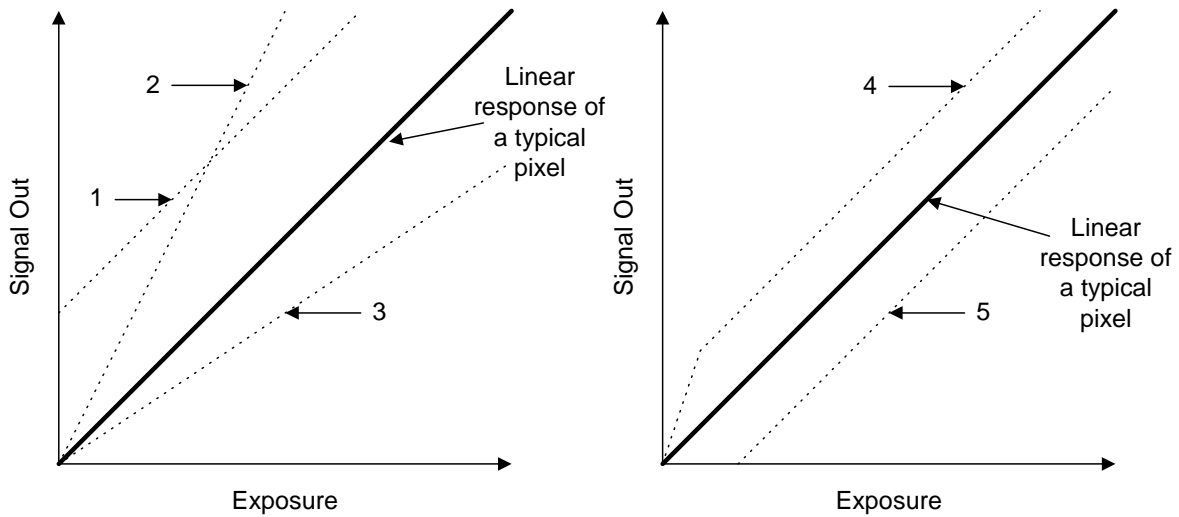

Figure 10: Defect Pixel Classification
13. Pixels whose response deviates from the average pixel response by the specified threshold, (4.5mV for chroma, 5.5mV for luma), when operating in exposure control mode with an integration time that is 50% of the line time. See lines 4 and 5 in Figure 10. If dark pattern correction is used with exposure control, the dark pattern acquisition should be completed with exposure control actuated. Dark current tends to suppress the magnitude of these defects as observed in typical applications, hence line rate changes may affect perceived defect magnitude. Measured at 1MHz data rate.